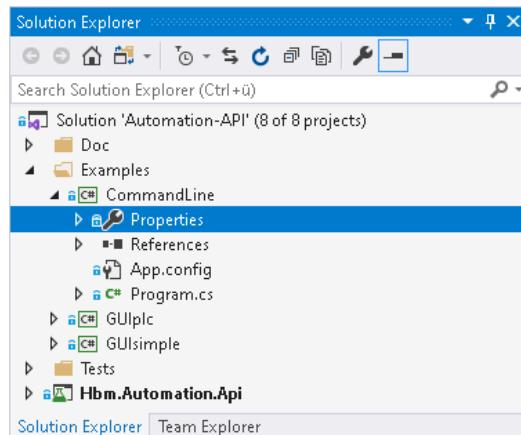

Fig. 6.1 Selecting properties
- ▶ Right-click on **CommandLine** in the **Examples** folder in the **Solution Explorer** and select **Properties**, or double-click **Properties** (Fig. 6.1) directly.